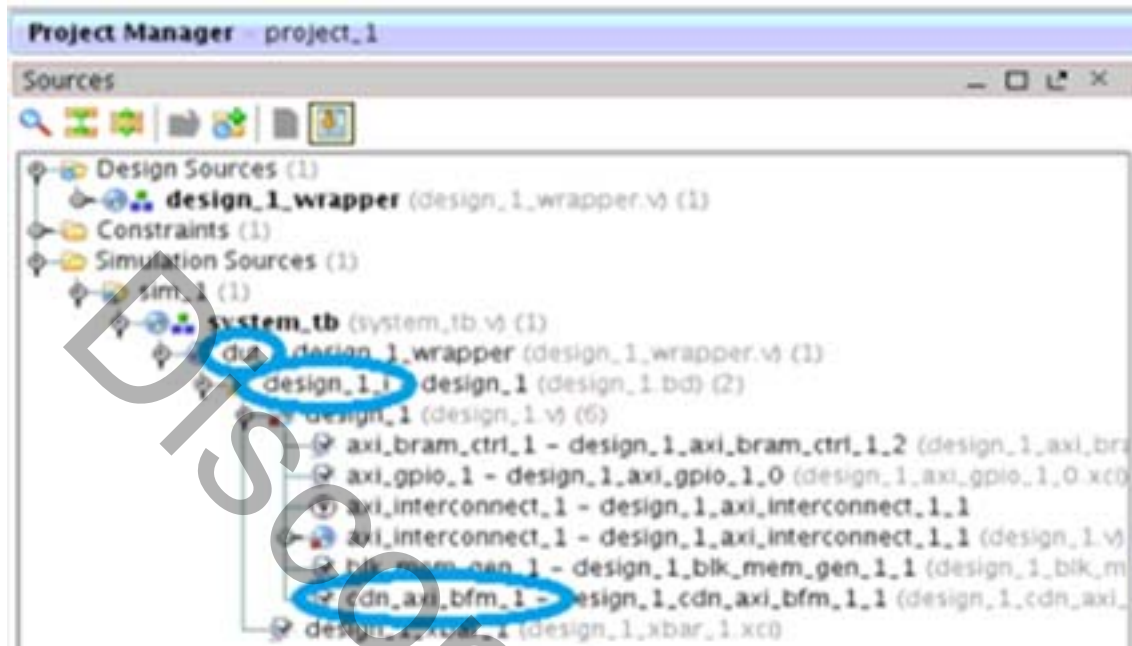
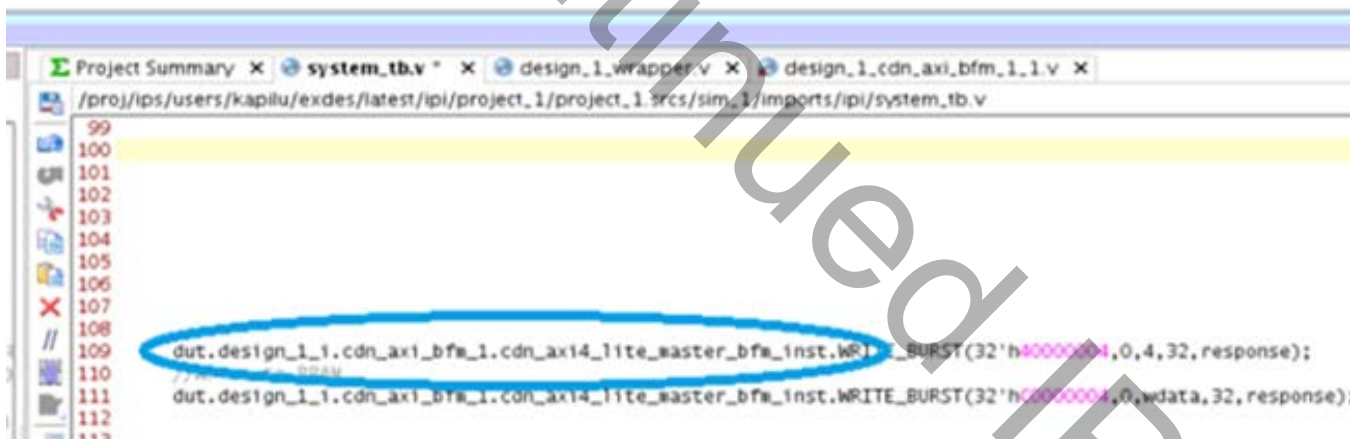

Figure 4-9: BFM Instance in Design Hierarchy – Source Window
Figure 4-10: BFM Instance in Design Hierarchy – system\_tb.v Window
- Figure 4-9 and Figure 4-10 show how to identify the BFM instance in the hierarchy. After the hierarchy is identified it can be used in the Verilog test bench to drive the BFM APIs.